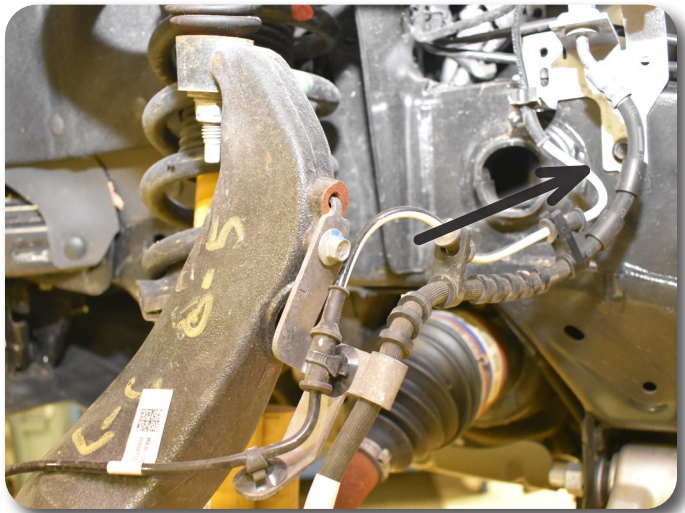

Figure 3
7. Disconnect the front brake line from the frame. Save bolts. Figure 3